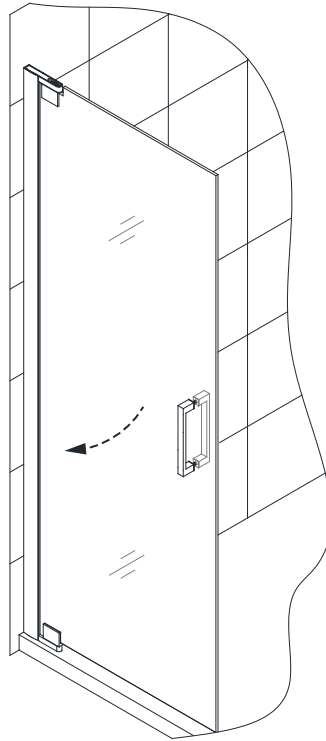

Fig 8
8. Open the **Door Glass (#03)** to expose the bottom **Pivot Retainer (#08)**. (Fig 8)